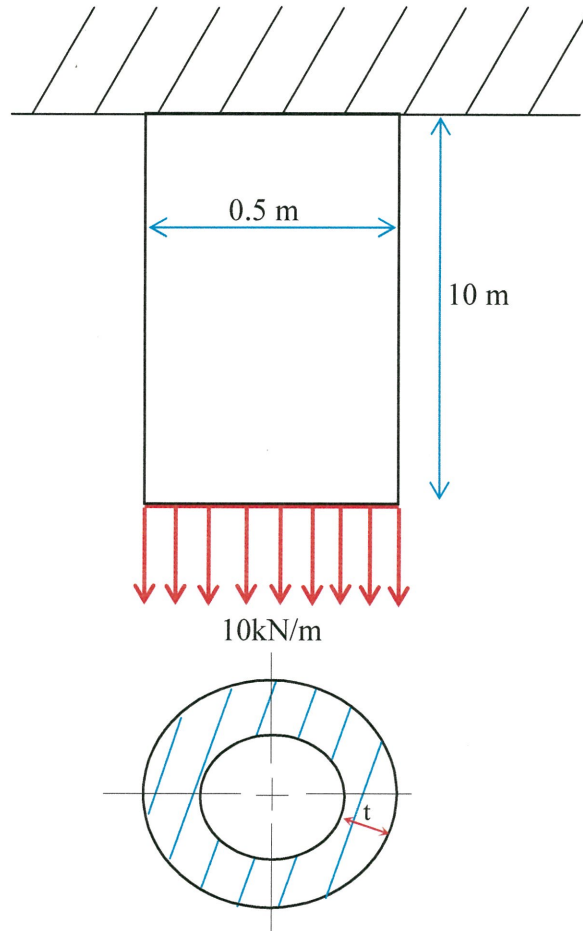

FIGURE Q1
- Q1** A hollow cylinder with a diameter of 0.5 m is subject to uniformly distributed axial load of 10 kN/m as shown in the **Figure Q1**.